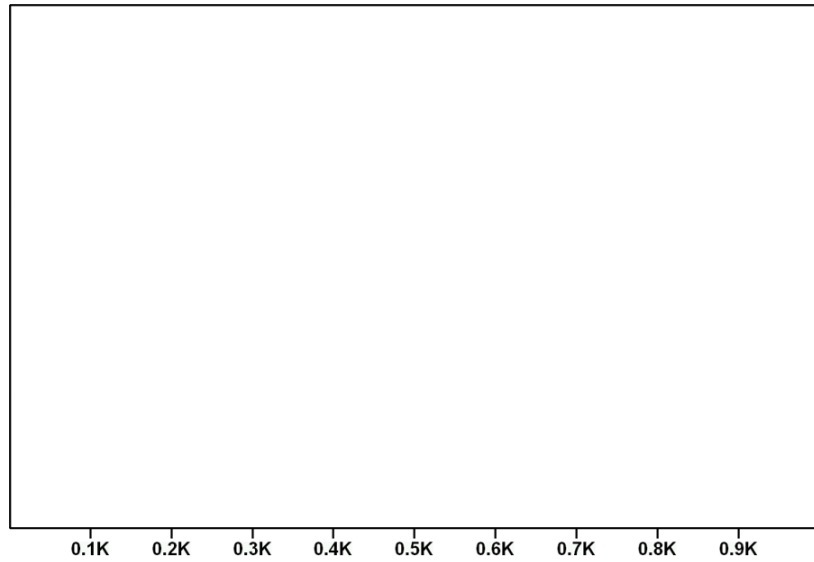

Figure 46: Simulation results without data.
- Run the file. You should see a blank area open up as is Figure 46.